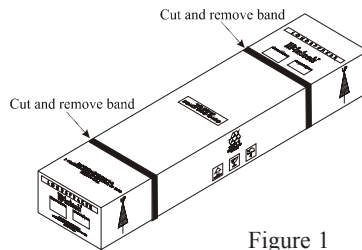

Figure 1
1. Remove the banding material from the shipping carton. Refer to figure 1.